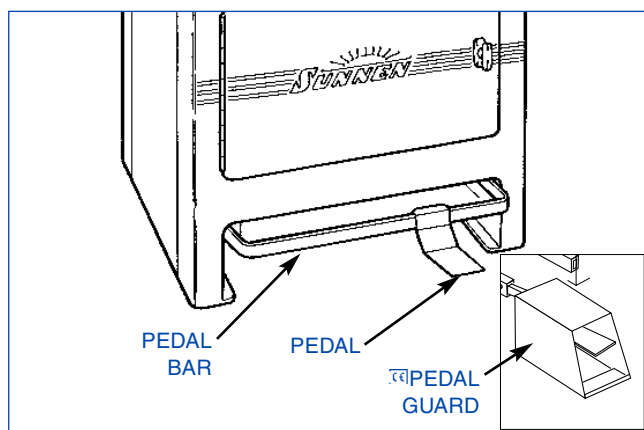

FIGURE 2-2, Base Assembly
2. PEDAL ASSEMBLY. Pedal Assembly is located on front and inside of Machine Base (see Figure 2-2). When depressed, assembly starts spindle drive